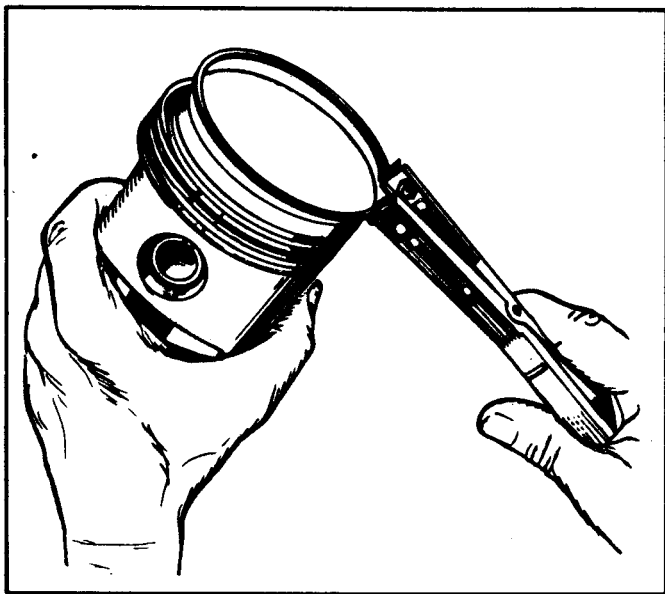

FIGURE 8. REMOVING PISTON RINGS
5. Remove the piston rings from the piston with a piston ring spreader as shown in Figure 8. Remove the piston pin retainer and push the piston pin out.